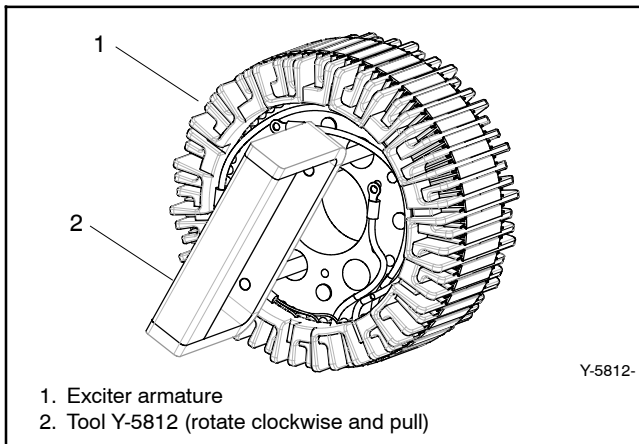

Figure 11-6 Removing Exciter Armature
12. Use tool Y-5812 or equivalent to remove the exciter armature from the rotor assembly shaft. Insert tool, rotate tool clockwise where washers grip the back of exciter armature core, and pull to remove the exciter armature. See Figure 11-6.